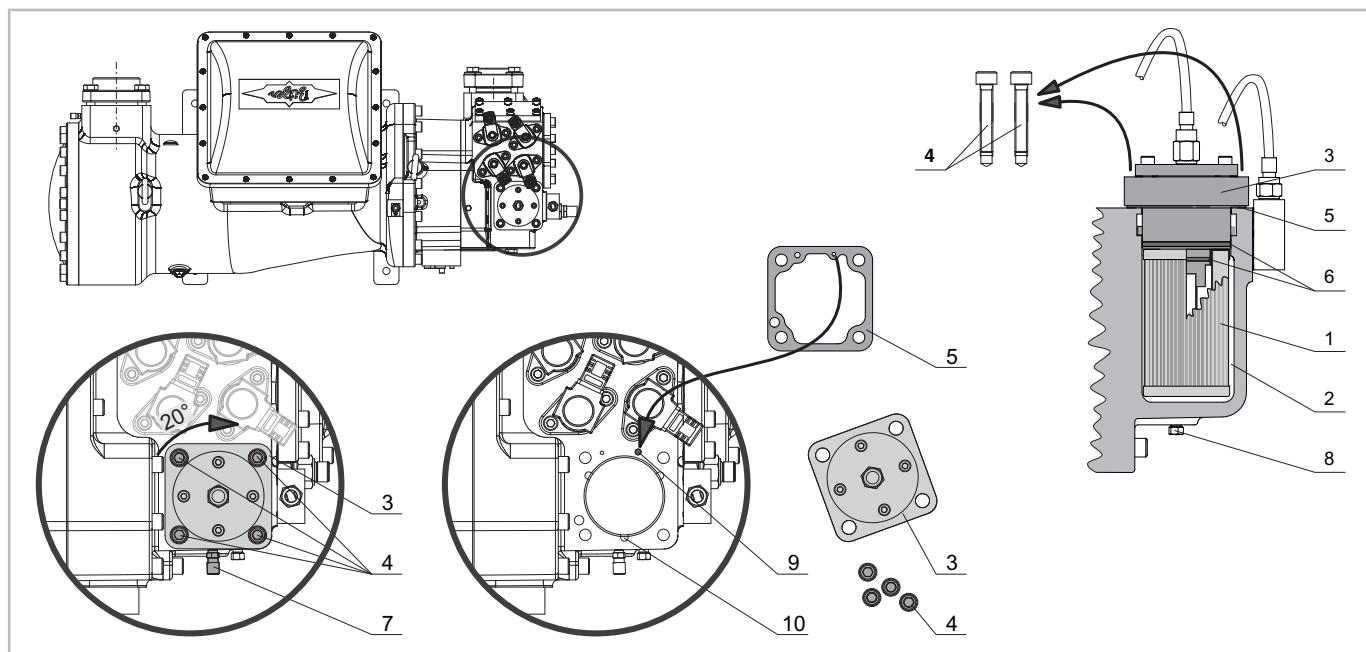

Fig. 13: HS.85: Replace oil filter
- HS.85: in front of the oil filter chamber, for replacement of the internal oil filter (see figure 13, page 23).
HS.85: Replacing the internal oil filter (see figure 13, page 23)